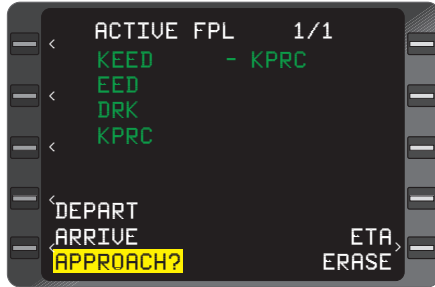

Figure 3-77
1. **FPL** Key - DEPRESS to display the **ACTIVE FPL** Page. (Figure 3-77)